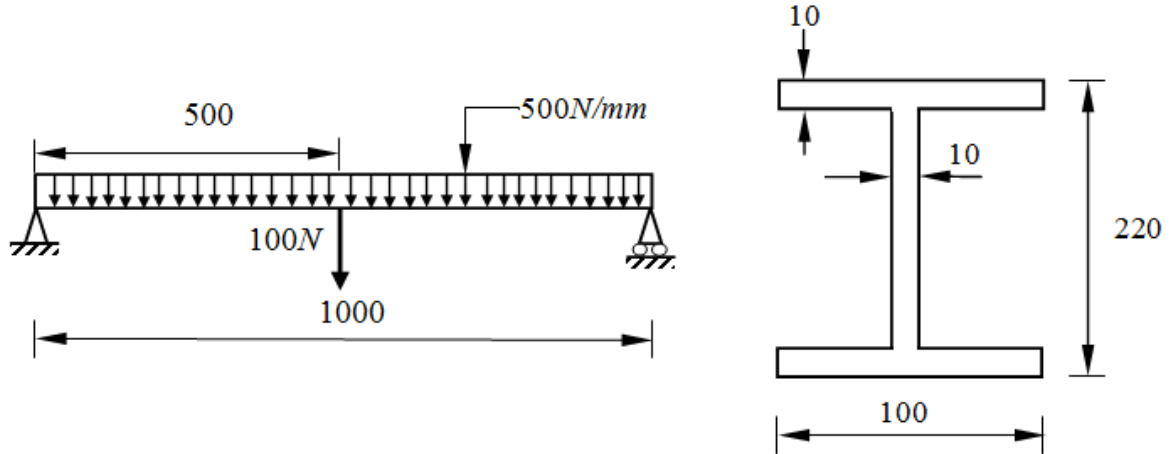

Figure 1
**Objective:** To find the deflection, stress, strain, shear force and bending moment diagram of simply supported beam with uniformly distributed load as shown in **Figure 1**.